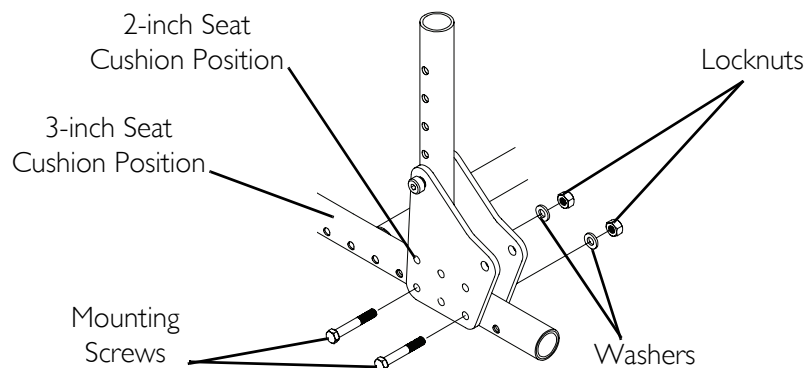

FIGURE 11.5 Adjusting the Back Height - Recliner Models Only
NOTE: For this procedure, refer to FIGURE 11.5.
3. Refer to FIGURE 11.5 to determine the seat adjustment plate mounting position for the corresponding seat cushion height.